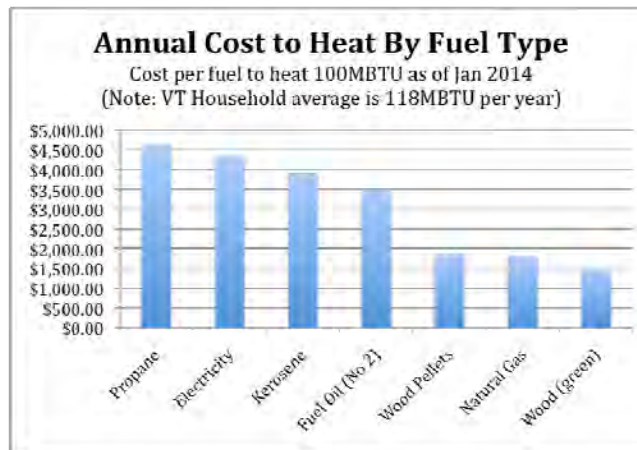

Figure 5: Annual Cost to Heat by Fuel Type per 100 MBTU
- Figure 5: Annual cost to heat by fuel type per 100 MBTU